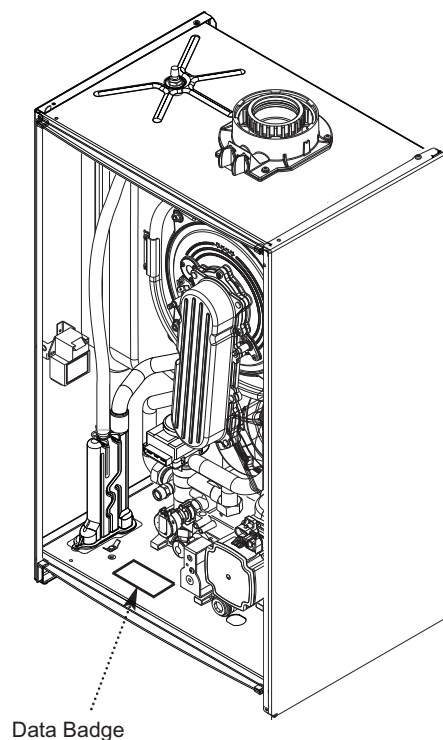

Fig. 2
5. The boiler data badge gives details of the model, serial number and Gas Council number and is situated on the boiler lower panel. It is visible when the control box is lowered (Fig. 2).